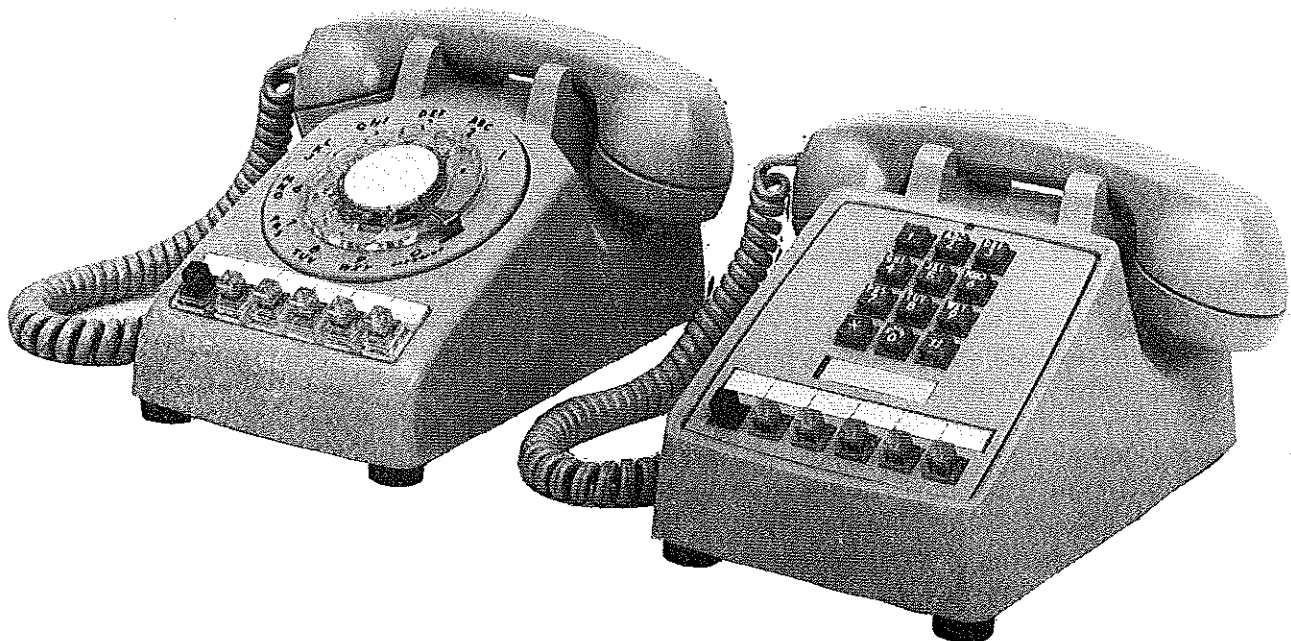

Figure 1. 8642 and 8643 2W/4W 6-Key Telephone Sets
1.01 This Practice provides basic installation and general operating information for the Wescom® 8642 and 8643 2W/4W 5-Line 6-Key Telephone Sets (Figure 1).